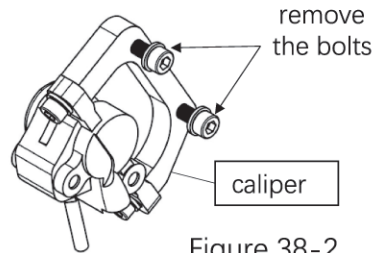

Figure 38-2.
b. Use a 5 mm Allen key (or T25 wrench) to remove the two bolts pre-mounted on the brake caliper, as shown in Figure 38-2.